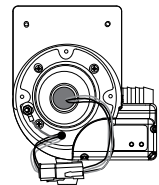

FIGURE 2
2. Once the UV bulb has cooled off remove the CLEARARRAY System enclosure cover (2) by removing the four screws (1). This will expose the UV bulb and connections, Figure 2.